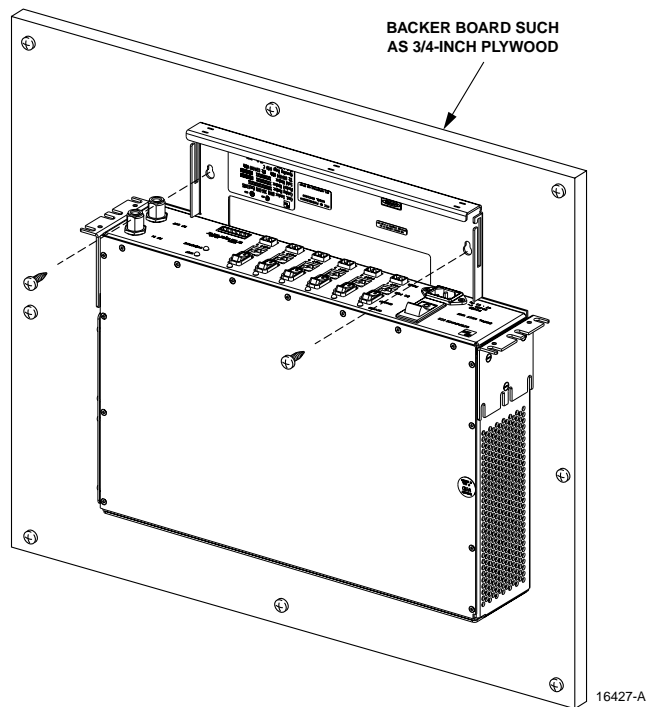

Figure 17. DHU Wall-Mount Installation
2. Position the DHU on the mounting surface in the specified location (per the system design) with the front panel facing up as shown in Figure 17.